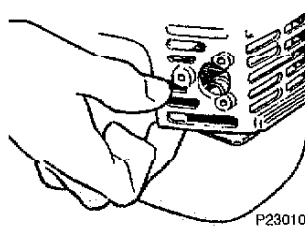

Figure 8
2. Lift the corner of the cylinder cover just below the muffler as shown in Figure 8, and lift off the cylinder cover. Figure 8